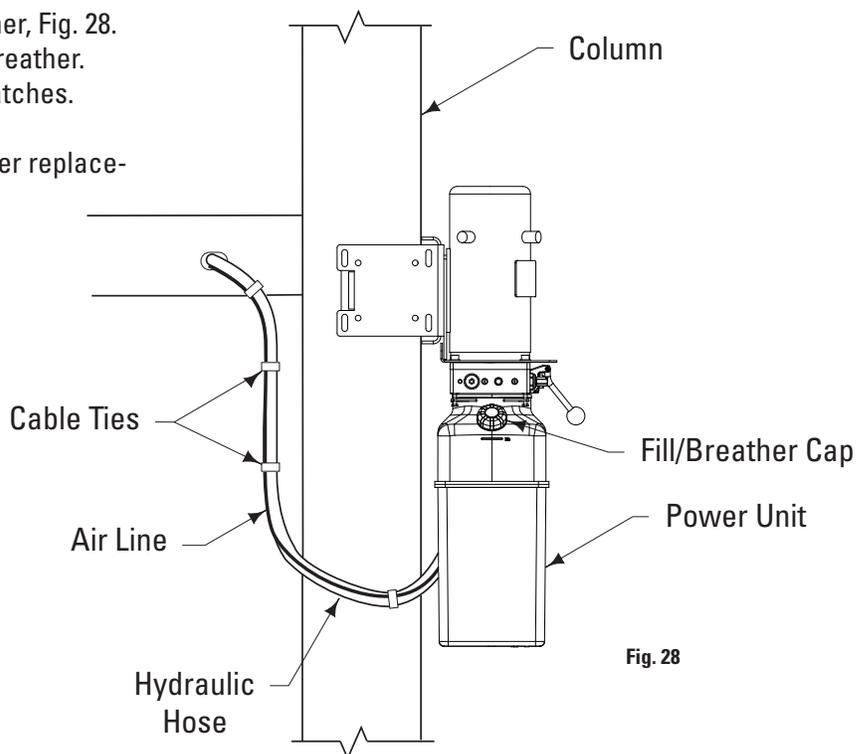

Fig. 28
25. **Hydraulic Fluid Filling:** System capacity is thirteen (13) quarts. Use Dexron III ATF. Remove fill/breather, Fig. 28. Pour in thirteen (13) quarts of fluid. Replace fill/breather. Start motor and raise lift to full rise. Lower onto latches.
**Note:** If fill/breather, Fig. 28, is lost or broken, order replacement.
**27. Bleeding:** Lift must be fully lowered before changing or adding fluid. Raise and lower lift six times. The cylinder is self-bleeding. After bleeding system, fluid level in power unit reservoir may be down. Add more ATF or ISO32 hydraulic oil, if necessary, following instructions in Step 16. To pressure test, run lift to full rise and run motor for approximately 5 seconds. Stop and check all fittings and hose connections. Tighten or reseal if required. Lower lift. If fill/breather cap, Fig. 28, is lost or broken, order replacement.